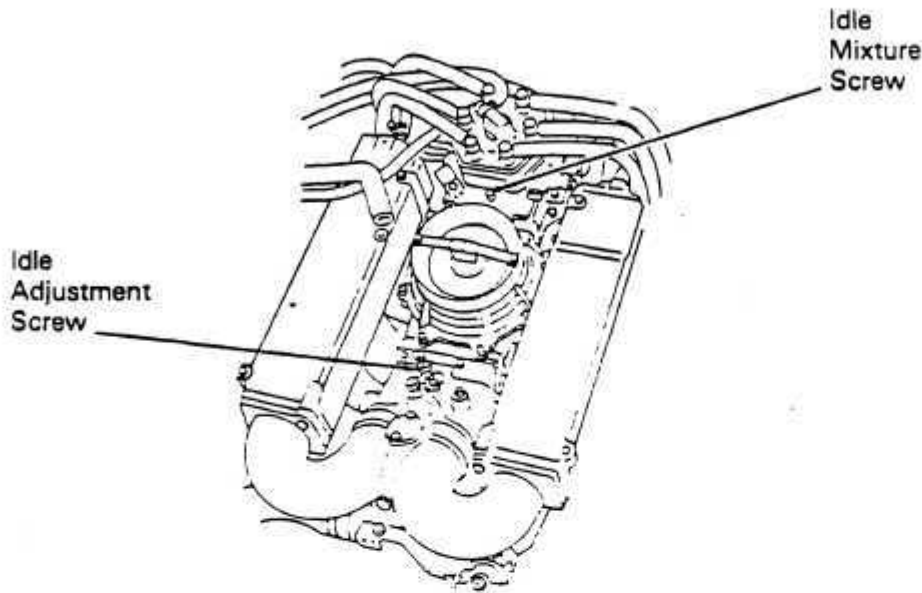

Fig. 19.
If not reset the fuel by removing the plastic cap or finger tip and turning the mixture screw (2) in the flap valve clockwise to increase the CO (richer) and anti-clockwise to reduce CO (leaner). Replace the plastic bung, reset the engine speed to 950 RPM rev the engine for a few seconds to 2000 RPM and check CO level when idle speed returns to 950 RPM. If outside the limits repeat the procedure until specification is met. Fig. 19.